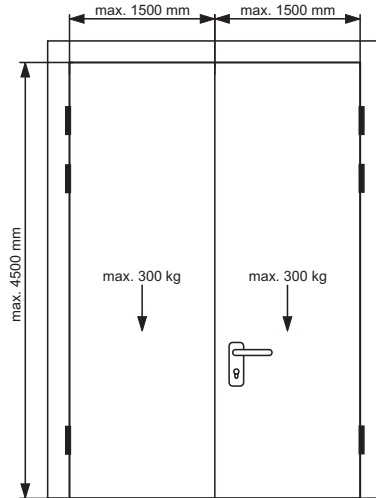

Fig. 2: Max. door dimensions and weights
- Fix the keepers (latch&deadbolt striker/strikers) into the door frame or passive leaf. The latchbolts and deadbolts must be able to glide into the strikers freely and without friction at all times. If necessary, adapt the keeper shapes to the door situation (Fig. 2).